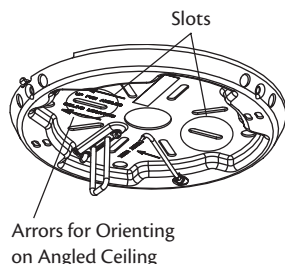

Figure 9 - Locating the slotted holes to use
- Align the slotted holes (refer to Figure 9) in the ceiling plate with the pilot holes in the wood support structure. Note: The isolation pads should be flush against the ceiling.
For Angled Ceilings: Be sure to orient the ceiling plate so that the arrows on the ceiling plate are pointing towards the ceiling peak. Refer to Figure 9.